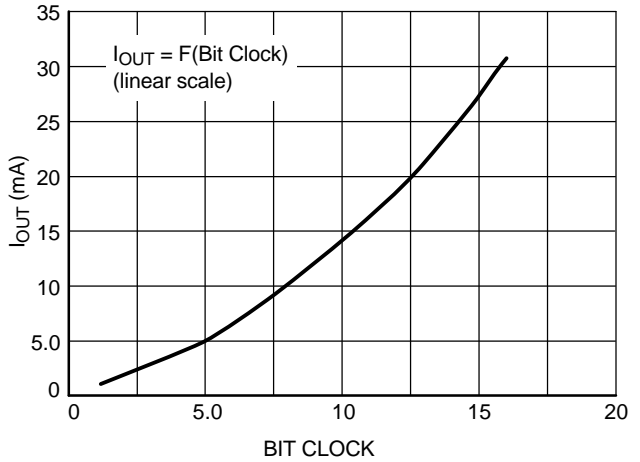

Figure 9. Typical Output Current Slope
- The pulses from the fifth to the twentieth will increase the LED current according to a pseudo logarithmic scale (see Figure 9).